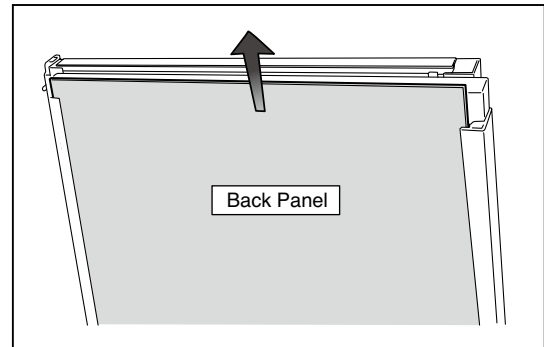

Fig.12
6) Remove the Back Panel. (See Fig. 12)
1. Slide the Back Panel and remove it shown in the figure 12.